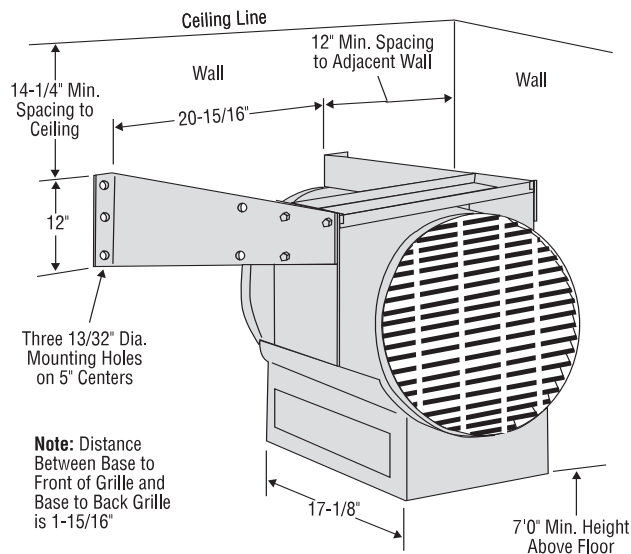

Figure 1
Keep at least 5' clearance in front of the heater. Refer to Figures 1 and 2 for side, top, and back clearance requirements.
- C. In either case the minimum mounting height is 7 feet from floor to bottom of heater. (See Figures 1 and 2.)